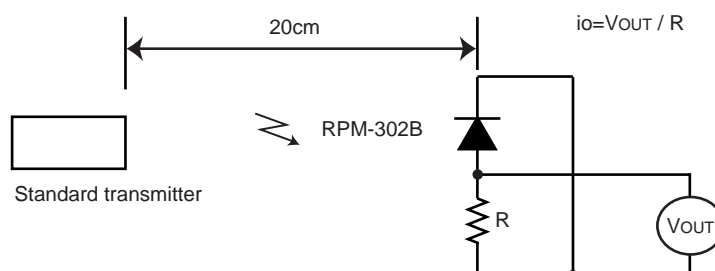

Fig.2 Measurement of standard transmitter proofreading
When standard transmitter output the signal at Fig.1 standard photodiode output become  $i_o=5\mu\text{Ap-p}$  under the measurement condition Fig.2.
- (1) All characteristics of the receiver in this specification are specified by supplying burst wave form (Fig.1) with ROHM standard transmitter (Fig.2 ).